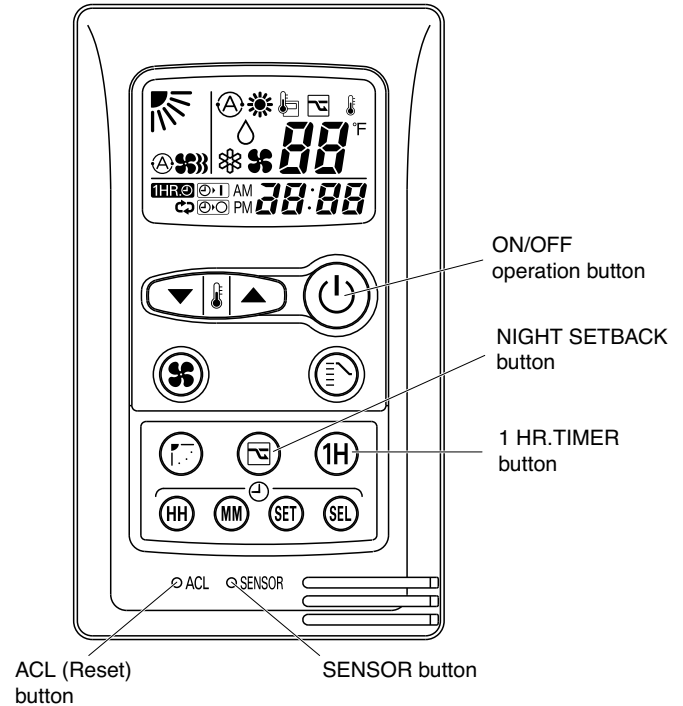

Fig. 9
- (1) Set the remote controller in Test Run mode. (Fig. 9)
- (2) Start Cooling mode test run by pressing the ON/OFF operation button of the remote controller. (Fig. 9)
- (3) Press the ON/OFF operation button of the remote controller again to stop the test run. (Fig. 9)
- (4) Finally press the ACL (Reset) button of the remote controller to release it from Test Run mode to return to normal mode. (Fig. 9)